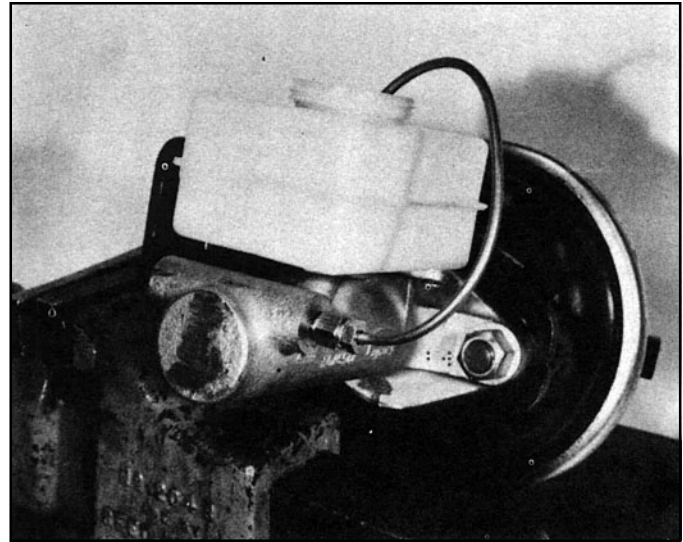

FIGURE 11
1. Plug outlet port and secure cylinder in a vise with front end tilted slightly downward. **NOTE:** Bleeder tubes or Bendix bleeding kit #74013 may also be used following the kit instructions enclosed. (Refer to Figure 11.)